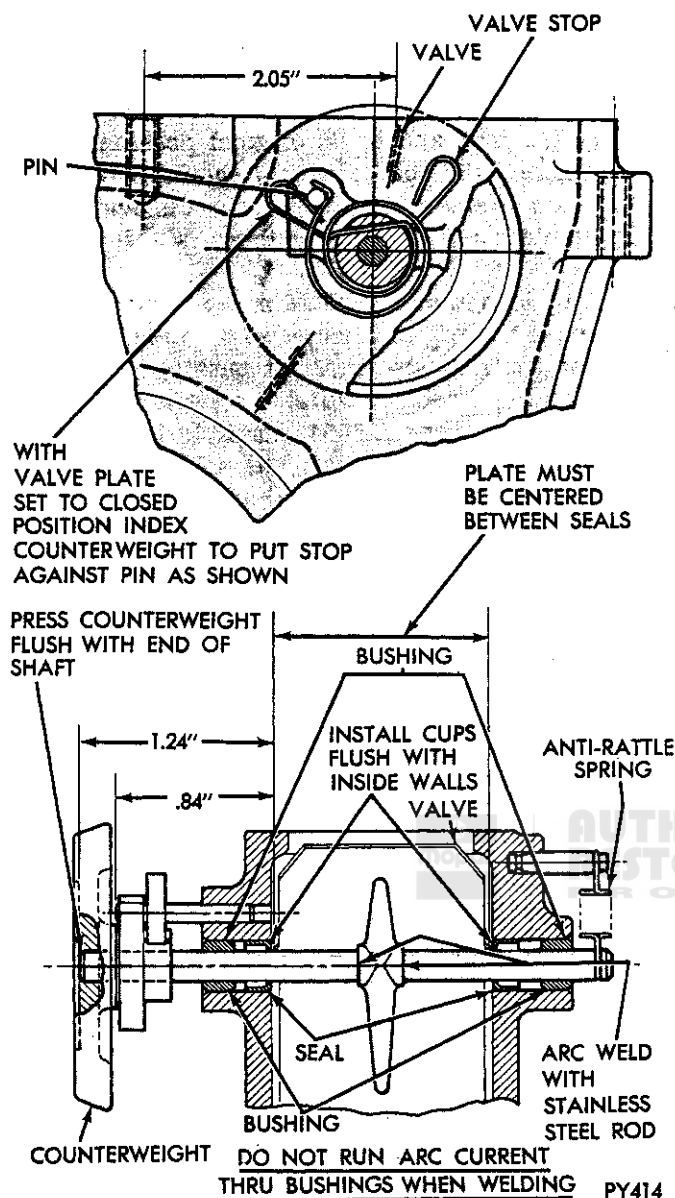

Fig. 12—Proper Manifold Heat Control Valve Installation Six Cylinder Engines
(1) Position valve plate, grind off spot welds from valve plate and shaft.
(2) Remove counterweight and shaft assembly, valve plate.
(3) Press out bushings and cup seals from manifold (Fig. 12).
(4) Inspect vent holes and clean out if necessary.
(1) **Press** in cup seals flush with inside walls (Fig. 12) with cupped ends facing outward.
(3) Line ream bushings and seals .3095 to .3110 inch diameter. Test for free fit of shaft in bushings and seals.
(4) Mark one end of shaft with a suitable dye at 1.240 inches, press counterweight on marked end of shaft until flush with end of shaft.
(5) Install thermostatic spring on counterweight with center end or tab pointing **right** and outer end or hook pointing **left**.
(6) Install valve stop on counterweight with looped ends facing away from thermostatic spring hook end.
(7) Holding thermostatic spring wrapped 215 degrees in a **clockwise** direction viewed from counterweight end, install shaft assembly in manifold and valve plate with strap facing outboard; attach hook end of thermostatic spring to stop pin (Fig. 12).
(8) With counterweight end of shaft positioned 1.240 inches (previously identified) away from manifold, valve plate centered between seals and positioned 2.05 inches from center of inside tapped hole
(intake to exhaust manifold attaching screw) (Fig. 12).